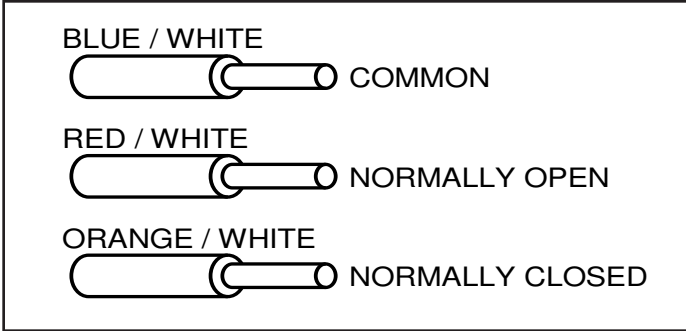

Figure 7. Sidemount Form C Wires
8. Standard and Standard with Surge Counter SPDs also provide wiring for Form C relay contacts. This connection can be used for remote monitoring of the SPD. The Form C contacts are rated at 150V AC or 125V DC at 1A. Make the remote monitoring connections per the Form C wiring diagram in Figure 7. Follow all national, state and local electrical codes when making these connections.